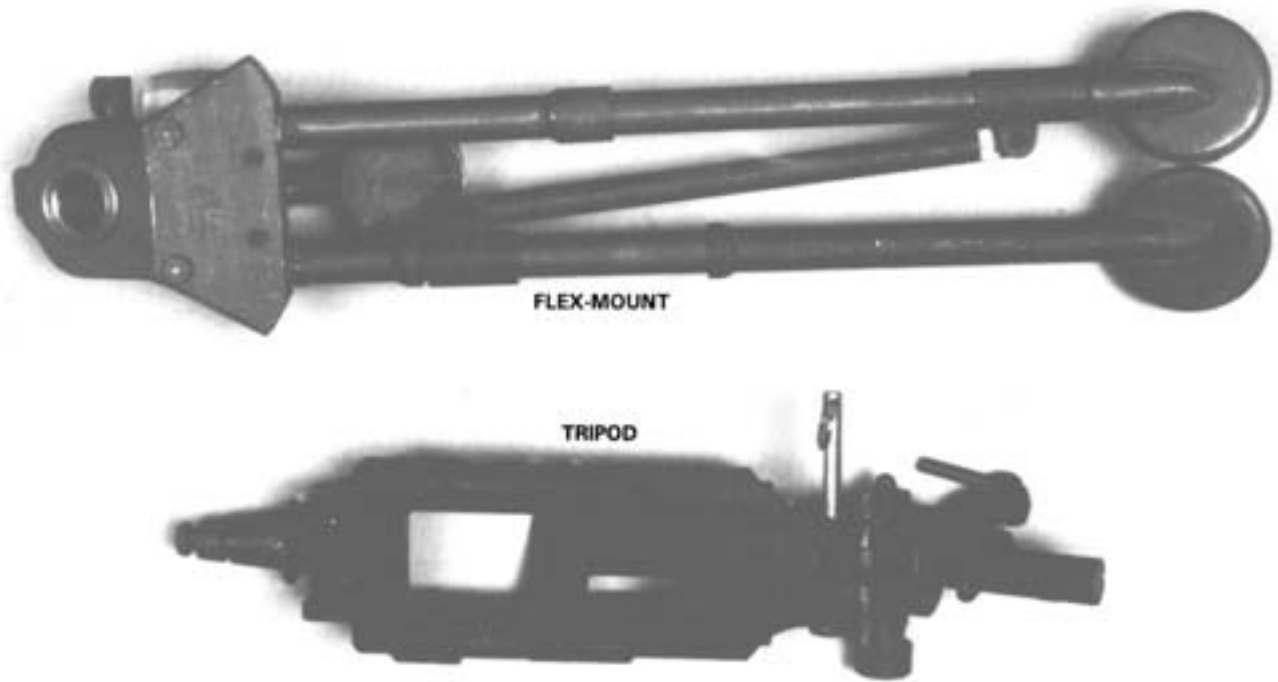
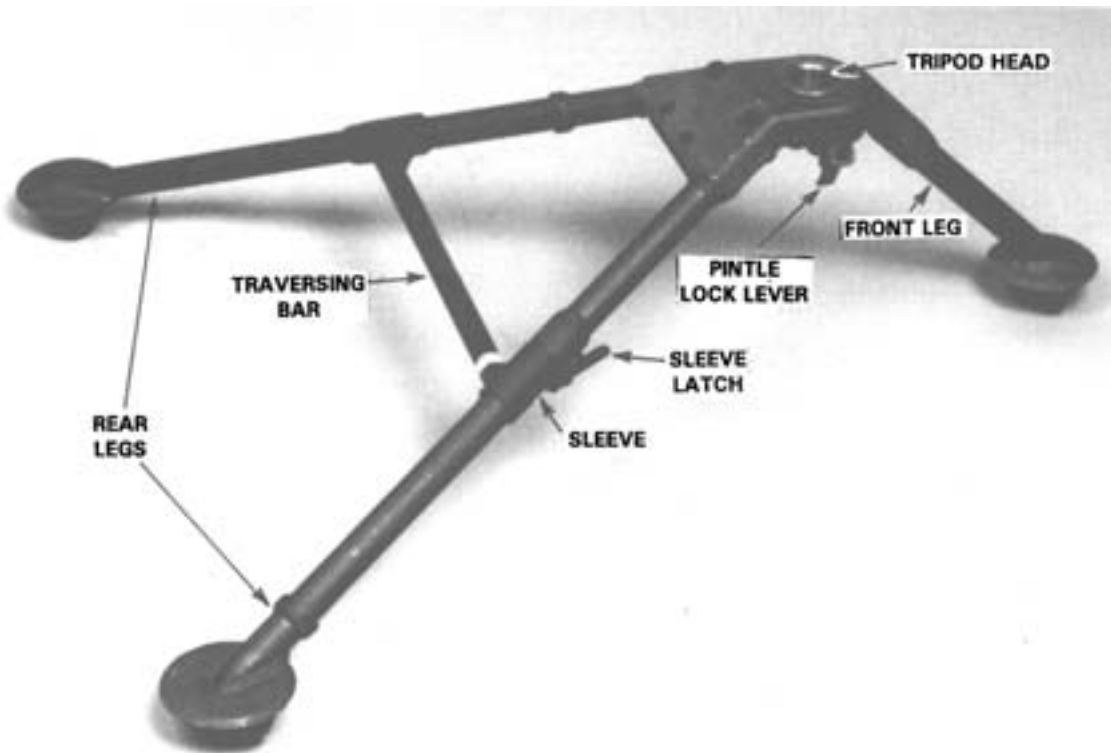
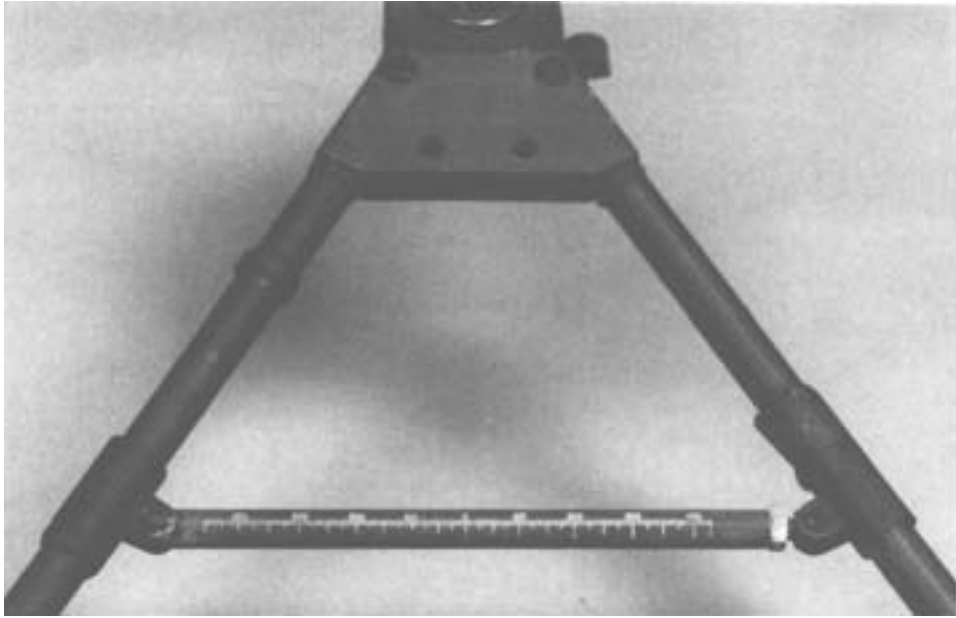

Figure 3-37. M122 Tripod and Flex-mount.
Figure 3-38. Tripod.
Figure 3-39. Traversing Bar.
The M122 tripod mount consists of the tripod assembly and flex-mount with the T&E mechanism. See figure 3-37. The tripod assembly provides a stable and relatively lightweight base that is far superior to the bipod. The tripod may be extended and collapsed easily. It consists of a tripod head, one front and two rear legs, and a traversing bar (see figure 3-38). The traversing bar connects the two rear legs. It is hinged on one side with a sleeve and on the other side with a sleeve latch. This allows the tripod to collapse to a closed position for carrying or storage or to lock in an open extended position for use. The traversing bar also supports the T&E mechanism. Engraved on the bar is a scale that measures direction in mils. It is graduated in 5-mil increments. It is numbered every 100 mils from 0 in the center to 450 mils on the left side and 425 mils on the right side (see figure 3-39).
- Prepare the tripod, extend its legs until the sleeve latch engages, locking them open. See figure 3-38.